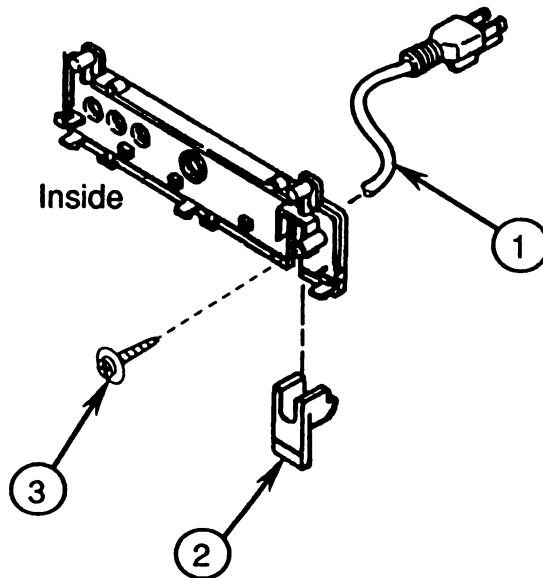

FIGURE 24
- b) Fit the rear panel over the AC power cord (Figure 24, #1).
- c) Slide the matching small plastic holding piece (Figure 24, #2) under the cord until it fits securely under the power cord.
- d) Replace the screw that holds the power cord in place (Figure 24, #3)